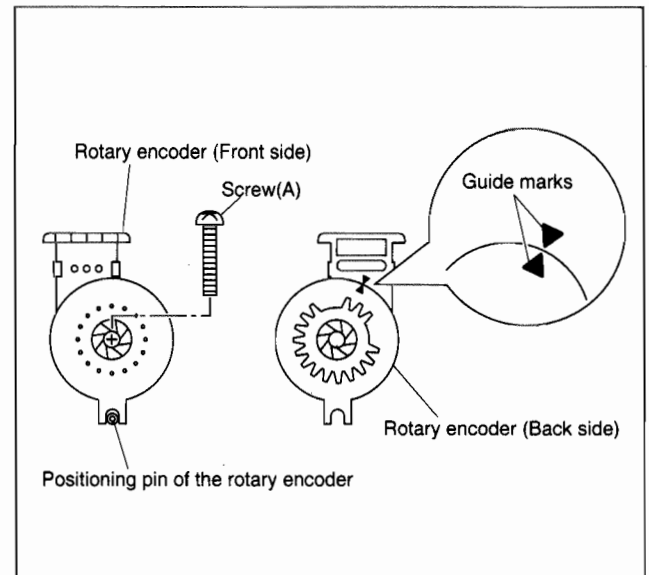
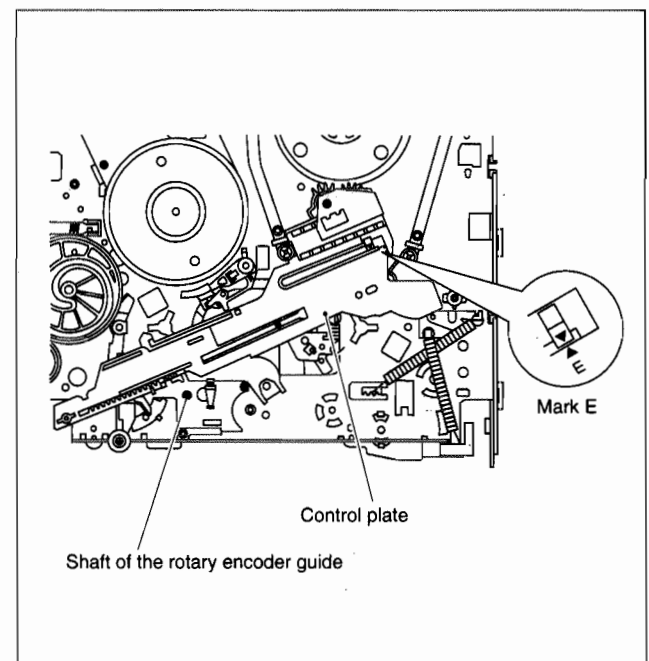

Fig. 2-2-20
Fig. 2-2-21
- (1) Remove the screw (A) and remove the rotary encoder by pulling it up. (See Fig. 2-2-20.)
- (1) Make sure that the mark E of the control plate is in alignment with the mark ▼ of the loading arm gear shaft and bring the guide marks on the rotary encoder into alignment as indicated in Fig. 2-2-20. (See Fig. 2-2-20 and Fig. 2-2-21.)
- (2) Turn over the rotary encoder with its guide marks kept in alignment and install it by fitting on the shaft of the rotary encoder guide and the positioning pin.
- (3) Tighten the screw (A) to complete the installation.